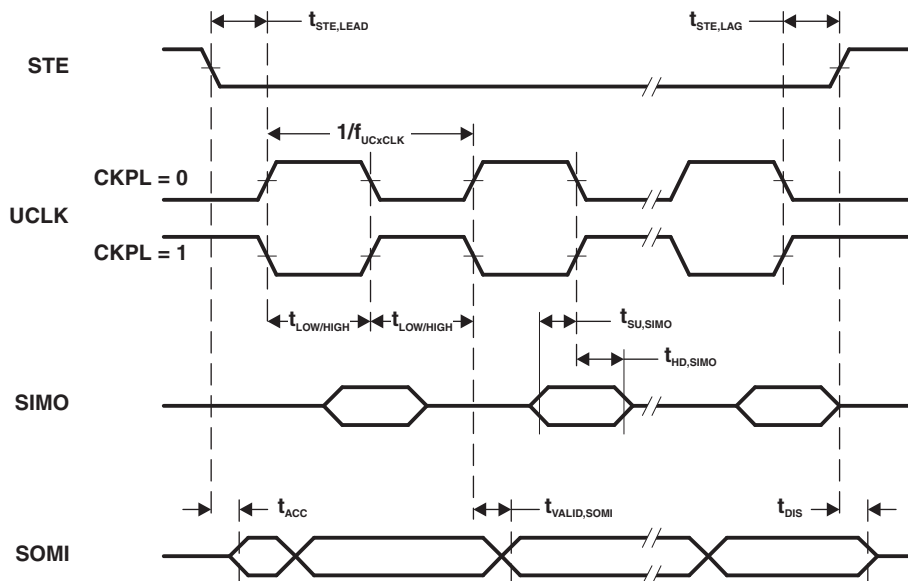

Figure 5-12. SPI Slave Mode, CKPH = 0
(1)  $f_{UCxCLK} = 1/2t_{LO/HI}$  with  $t_{LO/HI} \geq \max(t_{VALID,MO(Master)} + t_{SU,SI(eUSCI)}, t_{SU,MI(Master)} + t_{VALID,SO(eUSCI)})$ .For the master parameters  $t_{SU,MI(Master)}$  and  $t_{VALID,MO(Master)}$  refer to the SPI parameters of the attached slave.(2) Specifies the time to drive the next valid data to the SOMI output after the output changing UCLK clock edge. Refer to the timing diagrams in Figure 5-12 and Figure 5-13.(3) Specifies how long data on the SOMI output is valid after the output changing UCLK clock edge. Refer to the timing diagrams in Figure 5-12 and Figure 5-13.